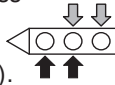

**Figure 12.** Disconnect sensor from wire harness.
- Access the moisture sensor wires by removing the toe panel. See Removing the Toe Panel, page 10. Disconnect the sensor wires from the harness. See figure 12.
- Access the moisture sensor by removing the toe panel. See Removing the Toe Panel, page 10. Disconnect the sensor from the wire harness. See figure 12.